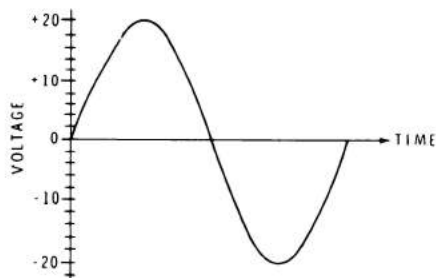

Figure 2-10
4. What is the peak voltage of the sine wave shown in Figure 2-10?
5. What is the rms voltage of the sine wave shown in Figure 2-10?
6. What is the peak-to-peak voltage of the sine wave shown in Figure 2-10? _____
4. The peak voltage of the sine wave shown in Figure 2-10 is 20 volts.
5. The rms voltage of the sine wave shown in Figure 2-10 is:
6. The peak-to-peak voltage of the sine wave shown in Figure 2-10 is 40 volts.